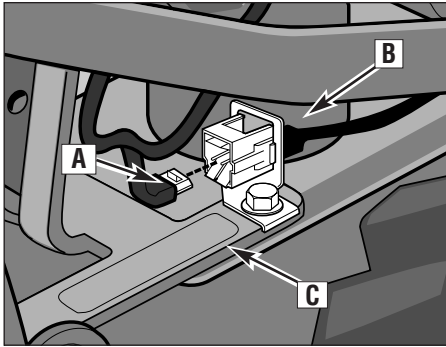

Figure 4-28: Forward Interlock Wiring
3. On the PTO Power Unit, unplug the Forward Interlock Wire Harness that leads from the base of the handlebars (A, Figure 4-28) to the receptacle (B) located on the top, right side of the transmission cover.
4. On the Stationary Attachment, locate the interlock wire (C, Figure 4-28) and clean contacts on plug and receptacle (B). This connection enables you to operate the Wheels/Tines/PTO Drive Lever in FORWARD without having to squeeze a Forward Interlock Lever.
5. Connect the plug from the Stationary Attachment (C, Figure 4-28) to the receptacle on the PTO Power Unit (B). The connection must be tight.
3. Verify that the Forward Interlock Wire Harness plug at the base of the handlebars (A, Figure 4-28) is connected to the Forward Interlock Wire Harness receptacle (B) on the top right side of the transmission.